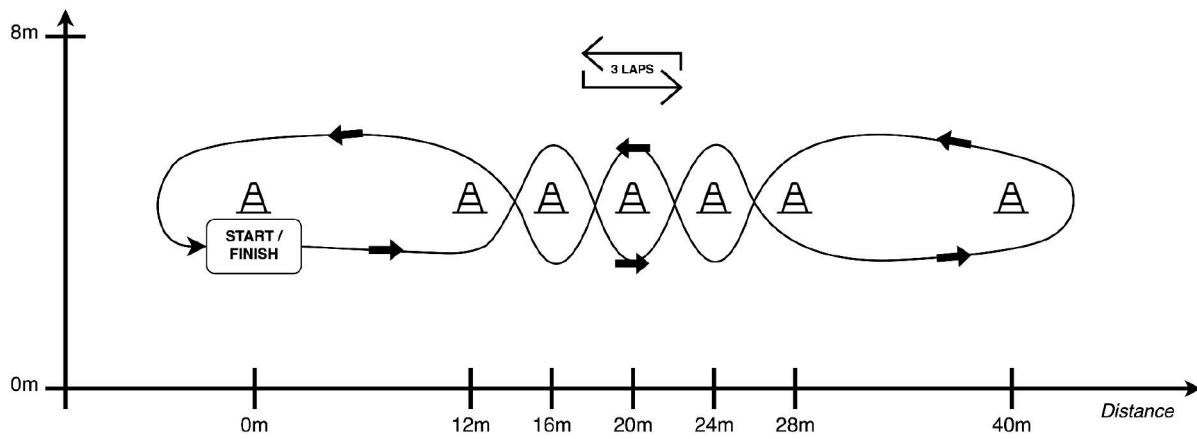

Figure 8: Layout and driving path of the Gymkhana event.
- Drivers must follow the path and direction shown in Figure 8.